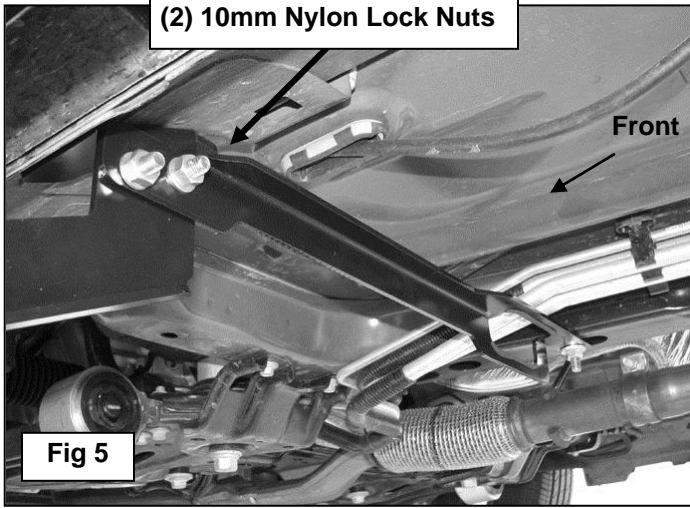

Fig 5
4. Hold the Support Bracket up to the back of the Front Bracket and line up the (2) mounting holes. Bolt the two Brackets together with the included (2) 10mm x 30mm Hex Bolts, (4) 10mm x 20mm Small Flat Washers and (2) 10mm Nylon Lock Nuts, **(Figure 5)**. Snug but do not tighten hardware at this time.